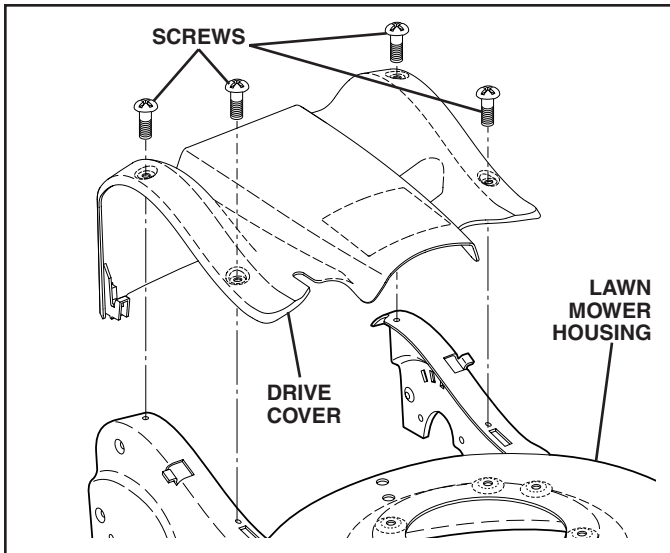

FIG. 18
## TO REMOVE DRIVE BELT (See Figs. 18–20)
2. Remove screws retaining drive cover and remove drive cover from lawn mower housing (See Fig. 18).
## TO REPLACE DRIVE BELT (See Figs. 18–21)
11. Reattach drive cover with screws previously removed (See Fig. 18).